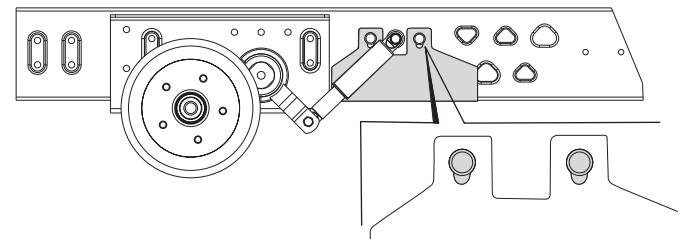

Fig. 16
- Suitable for caravans up to 2000 kg with Knaus Tabbert Dyonic chassis AB4 with a frame thickness of less than 2.8 mm (Fig. 16).